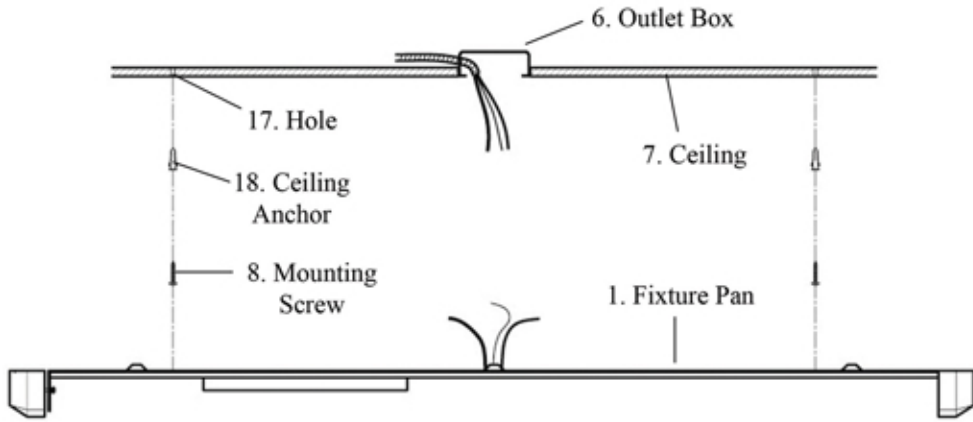

Fig. 4
2. Remove the Fixture Pan (#1) from the Ceiling (#7). Drill appropriately sized Holes (#17) at the marked keyhole locations. Insert the Ceiling Anchors (#18) into the Holes (#17). **(Fig. 4)**
3. Thread the Mounting Screws (#8) halfway into the Ceiling Anchors (#18). **(Fig. 4)**